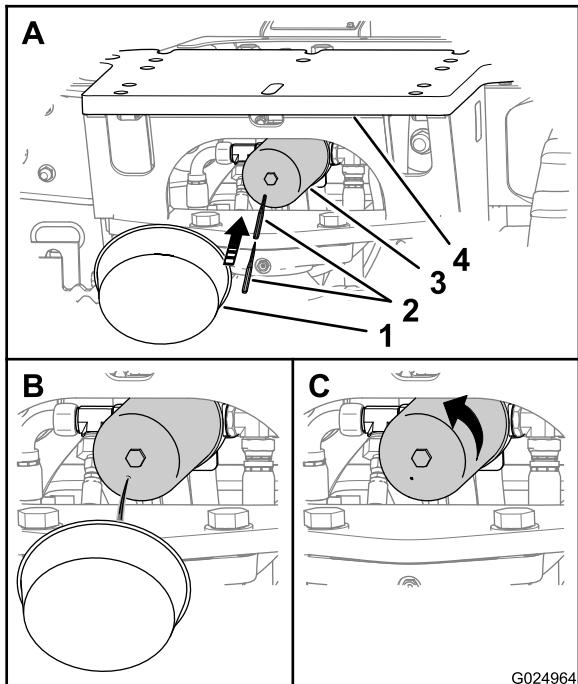

Figure 117
Note: You can access the hydraulic-return filter from underneath the rear-attachment plate of the machine (Figure 117).
1. Place a container under the hydraulic-return filter (Figure 117).
2. Puncture the bottom of the hydraulic-return filter and allow the residual hydraulic fluid to drain in the container (Figure 117).
3. Rotate the hydraulic-return filter counterclockwise and remove the filter (Figure 117).